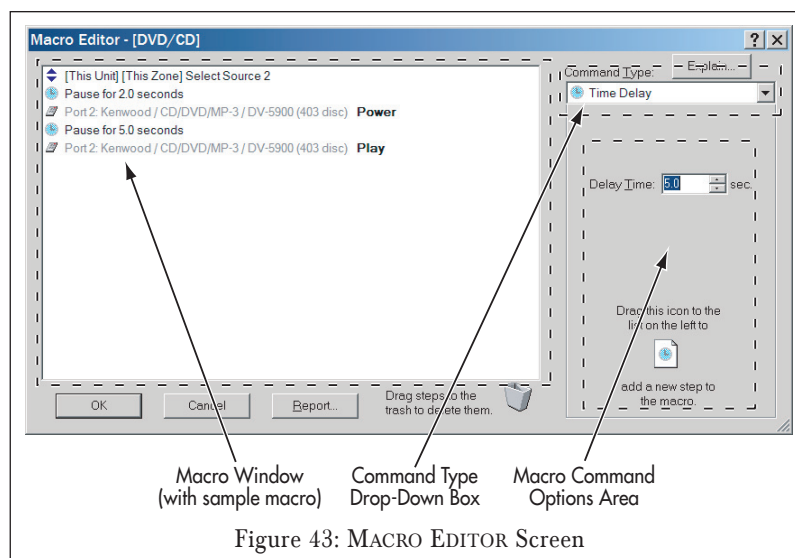

Figure 43: MACRO EDITOR Screen
- If the button has not been programmed with a macro (no MACRO INDICATOR appears on the button) select CREATE MACRO. The MACRO EDITOR screen will appear. See *Figure 43*, on page 33.
The Macro Editor Screen (Figure 43)